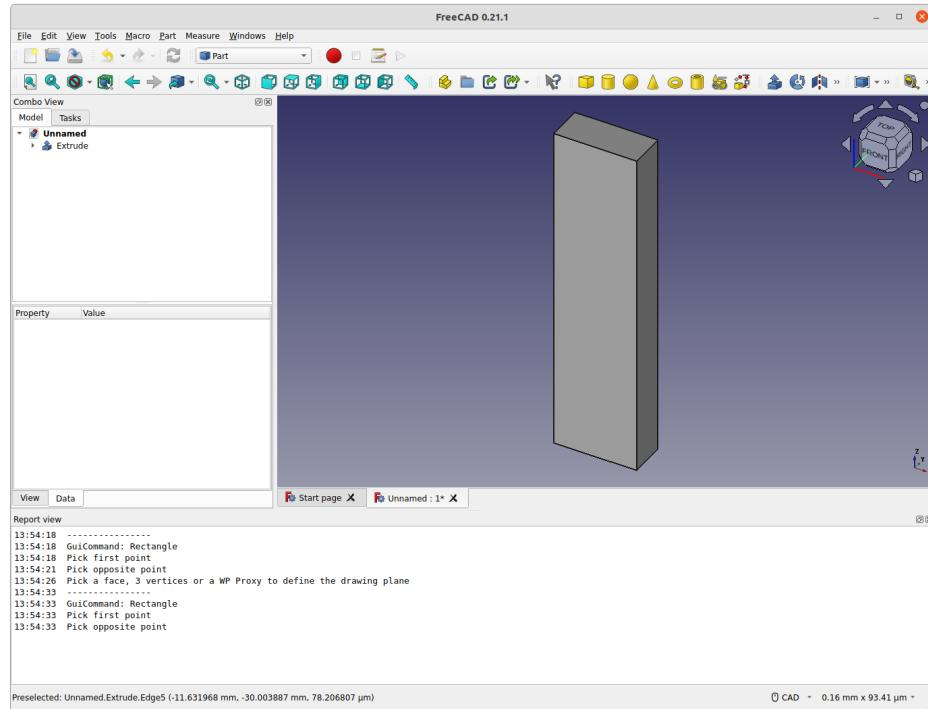

Figure 3: Screen shot of the rectangle extruded 90 um.
- For learning purposes, change the extrusion length for the rectangle to 90 um and zoom to fit all. A reference screen shot is shown in Fig. 3.